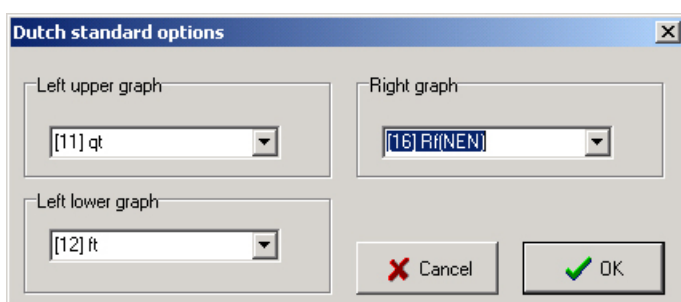

Fig. 4-13: Channel Options in the Dutch Standard for Graphic Display
2. The curves can alternatively be displayed and printed according to the **Dutch standard** (Figs. 4-13 and 4-14), with normally point resistance and sleeve friction left and the friction ratio right. Any combination of available channels can however be done here.